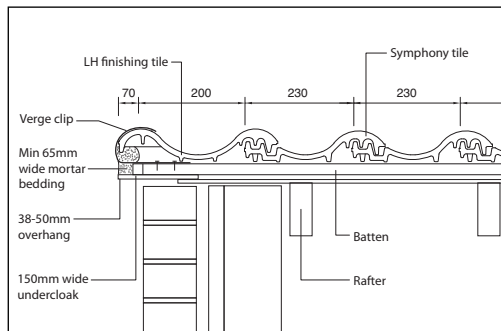

Fig 39 - Section through typical brickwork verge showing verge clips
- 2 Lay the strips of undercloak rough side up and closely butted together, with a slight tilt outwards to provide a drip edge with a maximum 50mm overhang from the brickwork gable or bargeboard (Fig 39).